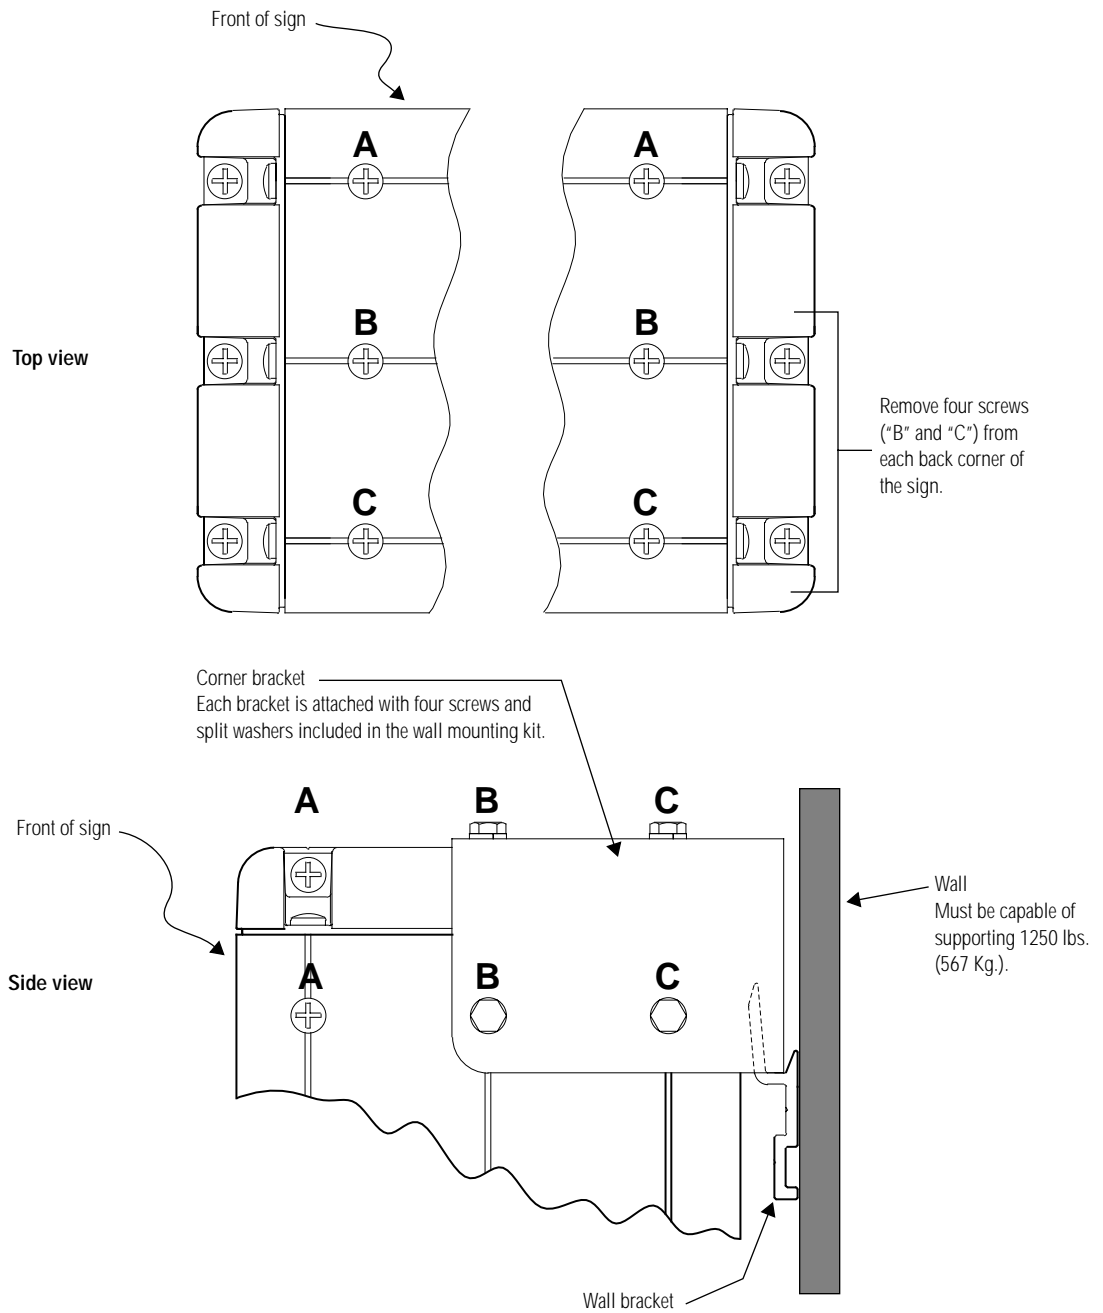

Figure 4: Wall mounting the sign
2. Remove the four screws from each back corner of the sign at "B" and "C" (see Figure 4):
- Attach a corner bracket (included with the wall mounting kit) to the back corner of each side of the sign. Use four bolts with split washers (included with the wall mounting kit) to attach each bracket (see Figure 4). Torque each bolt to 50 - 60 foot-pounds (5.7 - 6.8 Nm).